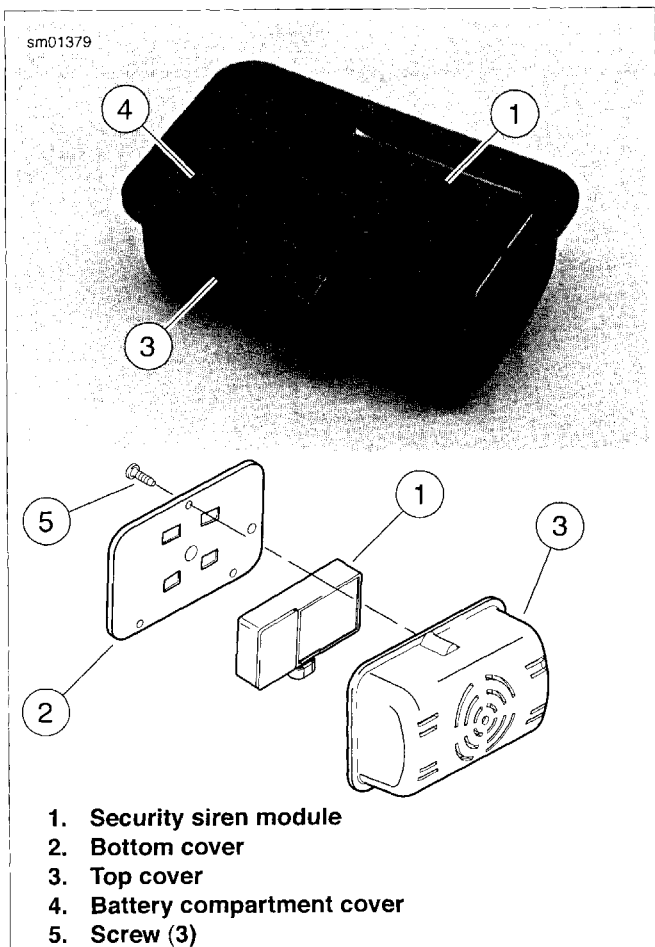

Figure 6-117. Security Siren Assembly
2. See Figure 6-117. Remove security siren (1) from top cover (3).
- See Figure 6-117. Place security siren module (1) inside top cover (3) with siren connector [142A] positioned in cutout in cover and siren battery compartment cover (4) visible.